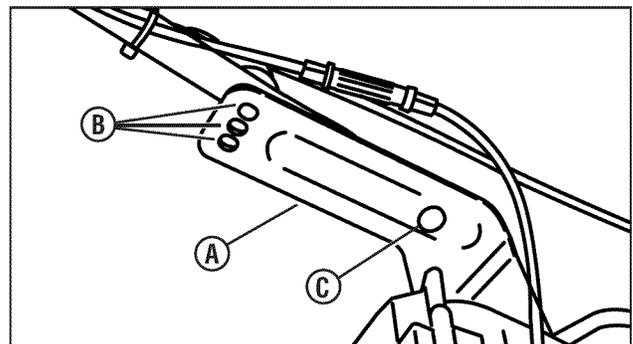

Figure 8: Adjusting the handle height
1. Remove the handle knobs, washers and carriage bolts from the lower handle **(A, Figure 8)**.